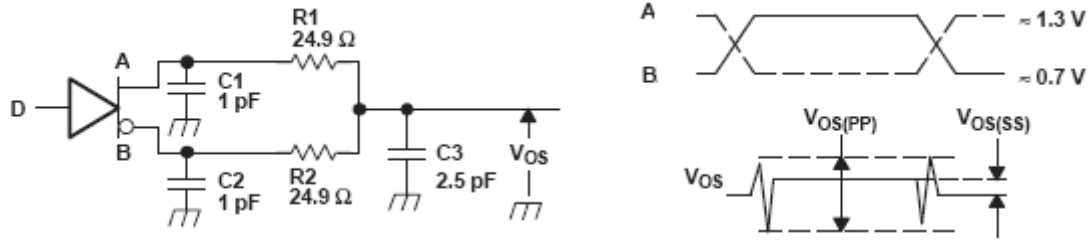

**Figure 3. Driver Voltage and Current Definitions**
3. See Figure 3. DC Measurements reference.